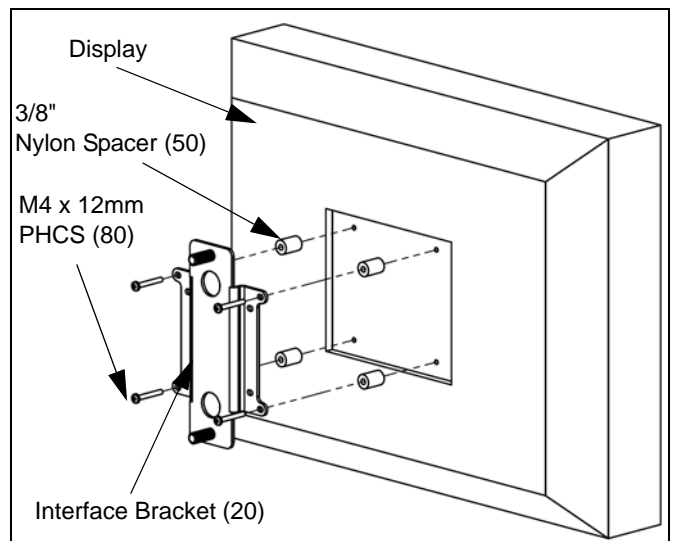

Figure 5: Recessed Mount Interface Installation
1. Place display face down on a clean dry surface. (see Figure 5)
2. Position four 3/8" Nylon spacers over four mounting holes in display back. (see Figure 5)
3. Position interface bracket (20) over four 3/8" Nylon spacers (50) and secure interface bracket (20) to display using four M4 x 20mm PHCS screws (80). (see Figure 5)